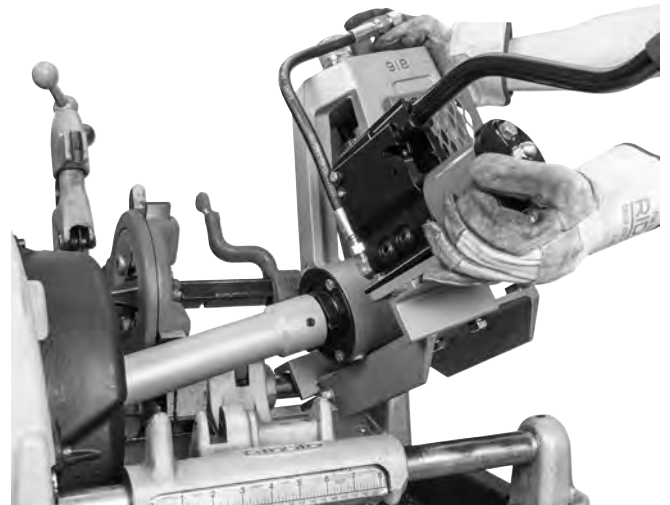

Figure 9 – 918 Roll Groover on 535 Threading Machine Mounting Base
4. With the end of the drive bar in the machine chuck, place the open slot of the base (stabilizer side) over the rear carriage rail and lower the pump to the front carriage rail. See Figure 9.